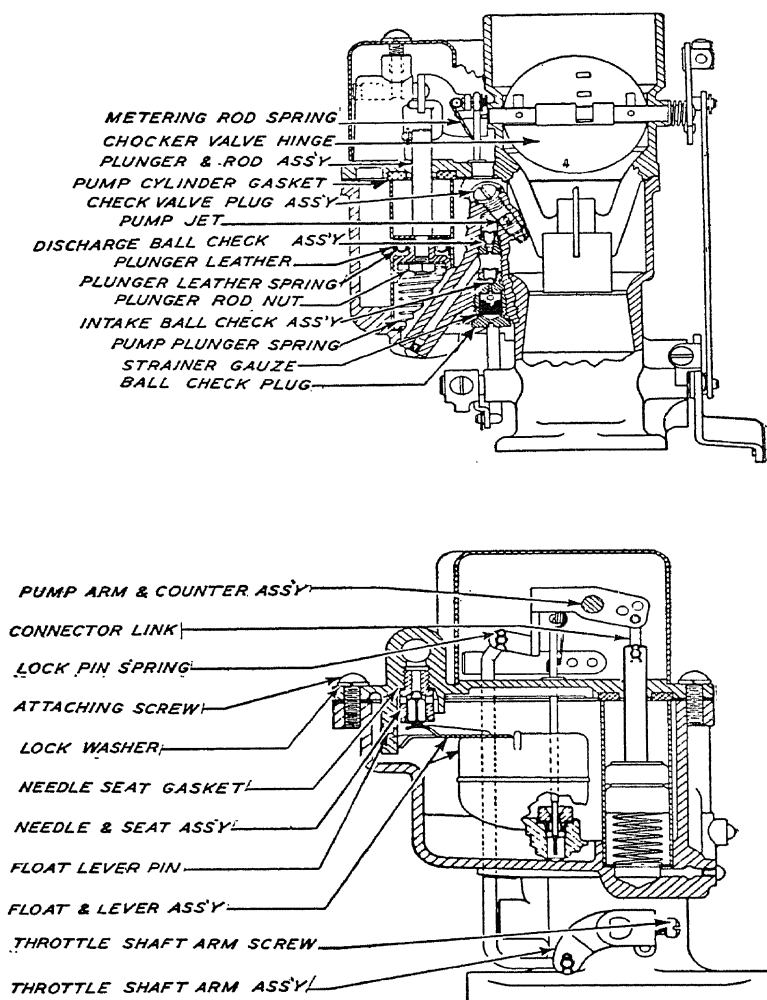

Fig. 146. Pontiac Carburetor in Sectional Views
**Model "283-S."** The Model "283-S" Carter triple venturi downdraft carburetor, Fig. 146, is used on the 1934 Pontiac straight eight. It employs an economizer, metering rod, and a low pressure type accelerating pump with adjustable stroke. The carburetor is only one of the factors which affect performance and fuel economy. Good practice demands that this unit be untouched until after inspection has been made to determine whether trouble exists in some other unit. See that the gasoline lines are clear; that the fuel pump is properly supplying fuel; that there are no leaks at manifolds; that the ignition system is in proper condition; and that there is even compression in all cylinders with tappets correctly adjusted.